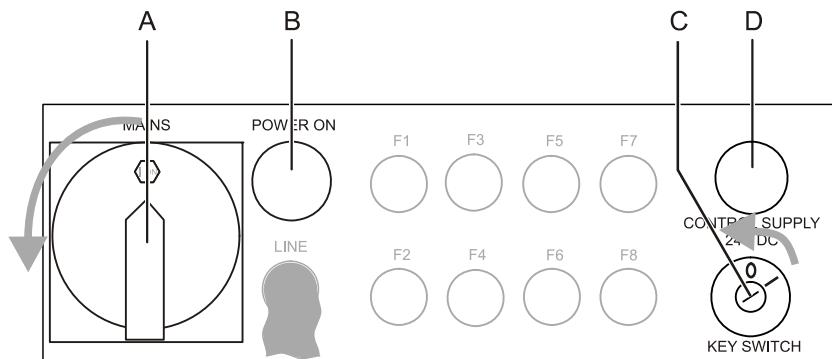

Figure 68: Switching off the laser device
1. Turn the key in the key switch (see Figure 68, C) counter-clockwise to the "O" setting.
3. Turn the main switch (see Figure 68, A) counter-clockwise to the "OFF" setting.